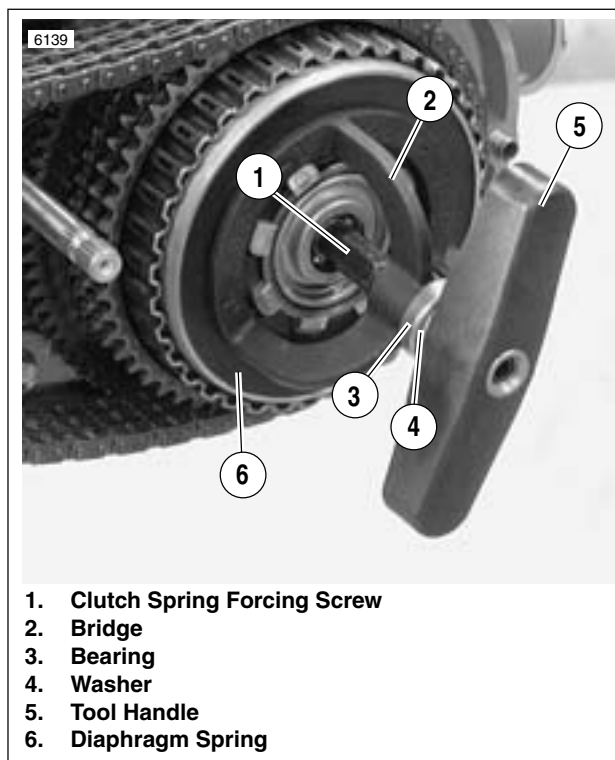

Figure 6-12. Compressing Clutch Diaphragm Spring
2. See Figure 6-12. Attach tools to compress clutch diaphragm spring.
- a. Thread the **CLUTCH SPRING FORCING SCREW** (Part No. HD-38515-91) (1) onto the clutch adjusting screw.
- b. Place the bridge (2) of **SPRING COMPRESSING TOOL** (Part No. HD-38515-A) against diaphragm spring (6).
- c. Install bearing (3) and washer (4).
- d. Thread the tool handle (5) onto end of forcing screw.